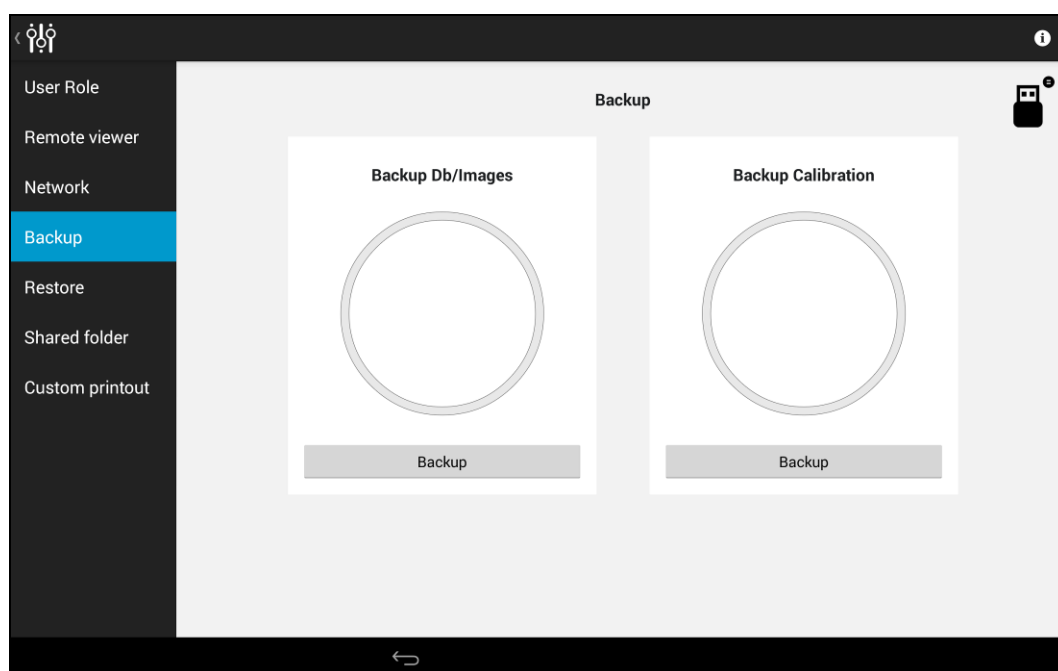

Fig. 65 – Configurator – BACKUP screen
- Click on the “Backup” tab of the Configurator screen (see Fig. 65);